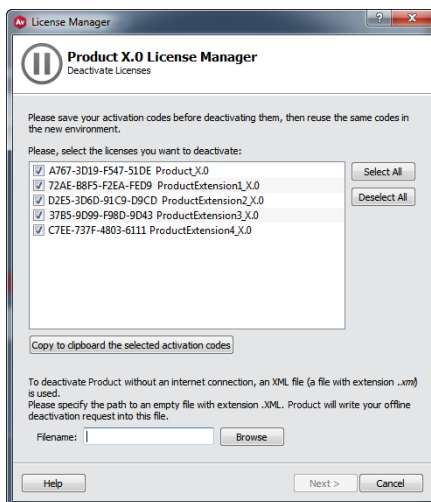

Figure 1.16: License Manager - Deactivation Dialog Offline
- Click on the *Deactivate Extensions or Editions* button. A dialog will open (see Figure 1.16),
- A dialog will open (see Figure 1.16): select the licenses you want to deactivate and the path to the XML file that will contain your offline deactivation request.